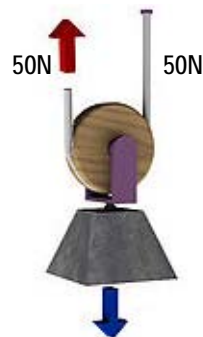

Fig 5.13 Single movable pulley
7. Tie the other paper- clip with the stand or table and pass it over the pulley as shown in Fig 5.13 to make it a movable pulley.
8. Suspend the load on the pulley as shown in fig 5.13.